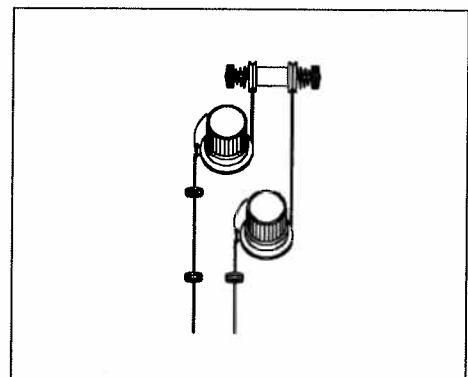

Figure 4-5
5. Route the thread down through the thread guide post(s). Threads using the top tensioners have two posts; threads using the lower tensioners have one. See Figure 4-5.